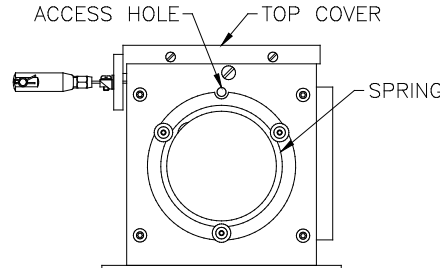

Fig. 2 Location of screw access hole.
1) Remove the top cover and release spring tension, if any (see **SPRING TENSION ADJUSTMENT** section). Between the top cover and the spring housing there is an access hole (see **Fig. 2**).